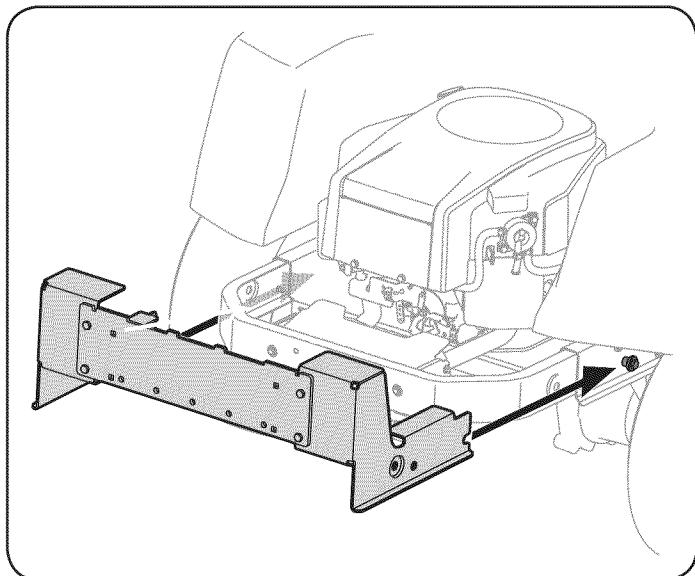

Figure 2
- Slide the mounting bracket assembly along the frame rails of the tractor until the hooks in the mounting brackets align under the shoulder bolts on your tractor, as seen in Figure 2.